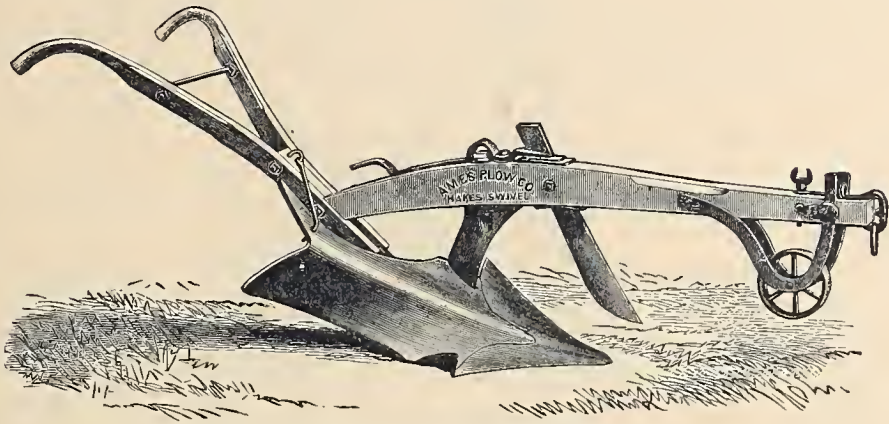

Fig. 289. — Hakes Improved Swivel Plow.
*The Hakes Improved Swivel Plow*, represented by *Fig. 289*, of which we make four sizes, is considered by many the best in use, and in sections where it is known has become quite popular. Its turning and pulverizing qualities are unexcelled, and the importance of thorough pulverization cannot fail to be understood.